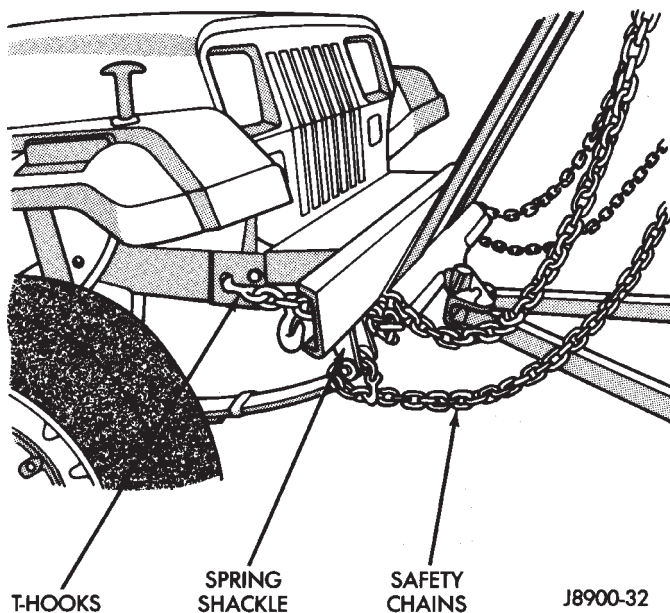

Fig. 7 Sling-Type, Front-End Towing (YJ Vehicles)
(2) Attach the T-hooks to the slots in the front end of each frame rail (Fig. 7).
(3) Position each safety chain over the top of each front spring and inboard of each front spring shackle.
(4) Double wrap each chain.
(5) Position the sling crossbar under the front bumper.
(6) Turn the ignition switch to the OFF position to unlock the steering wheel.
(7) Shift the transfer case to NEUTRAL.